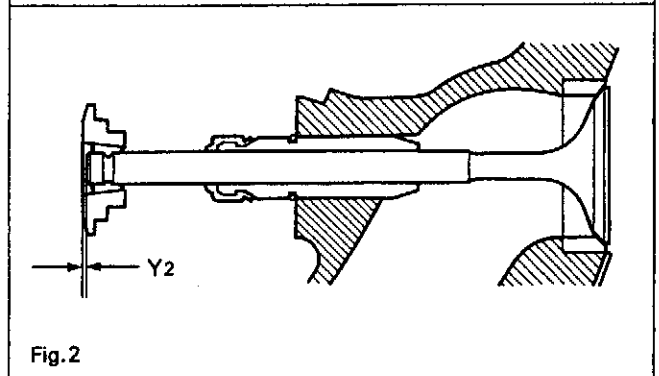

Fig. 2
- Set the valve spring retainer and two cotter halves to the valve stem end, and measure the length Y_2 , as shown in the Fig. 2.